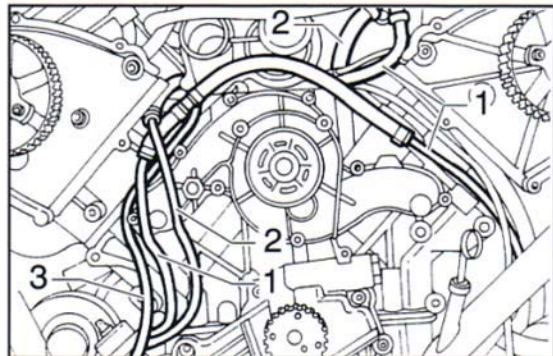

Fig. 47 ▲
- lift out the waste-gate valve (1) and pressure intake (2) command tubes and the cabling (3) (**Fig. 47**);